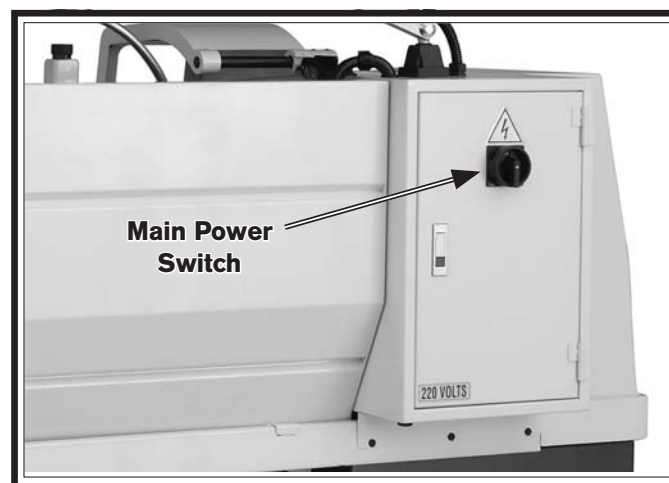

Figure 23. Location of the master power switch.
1. Make sure the master power switch (see **Figure 23**) on the rear of the machine is turned **OFF**.